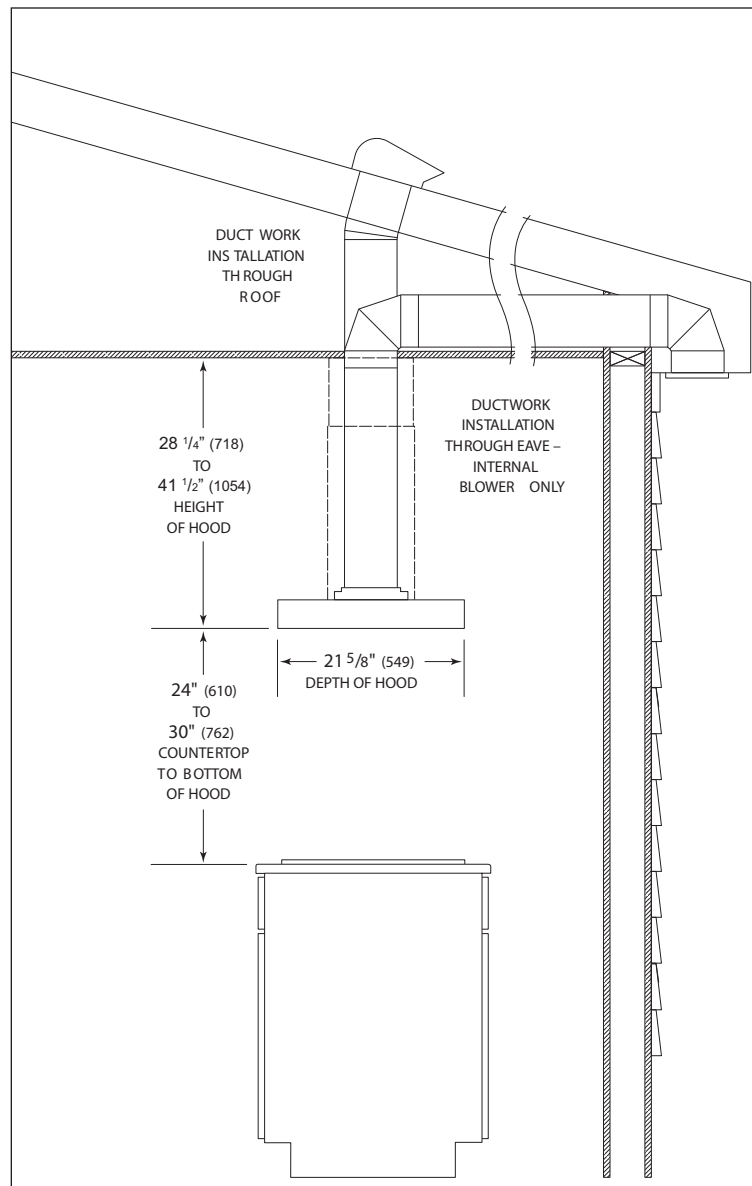

Figure 2-30 CTEI Hood Installation Considerations
2. Install ductwork as outlined on page 2-13 & Figure 2-30.